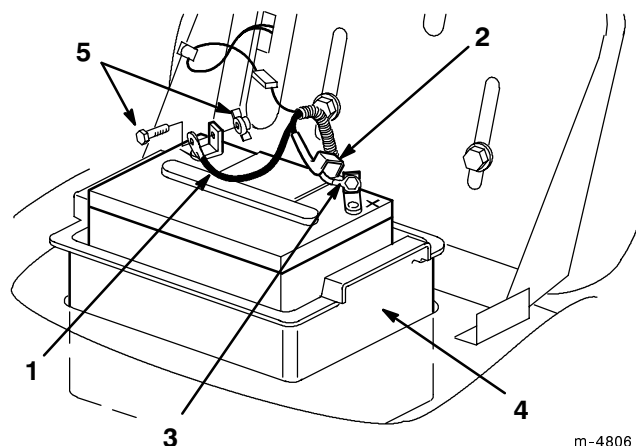

Figure 20
3. Disconnect the negative (black) ground cable from the battery post (Fig. 20).
4. Slide the rubber cover up the positive (red) cable. Disconnect the positive (red) cable from the battery post (Fig. 20).
1. Put the battery into the battery box and install into the chassis (Fig. 20).
2. Using the bolt and wing nut, connect the positive (red) cable to the positive (+) battery post (Fig. 20). Slide the rubber cover over the battery post.
3. Using the bolt and wing nut, connect the negative (black) cable to the negative (-) battery post (Fig. 20).